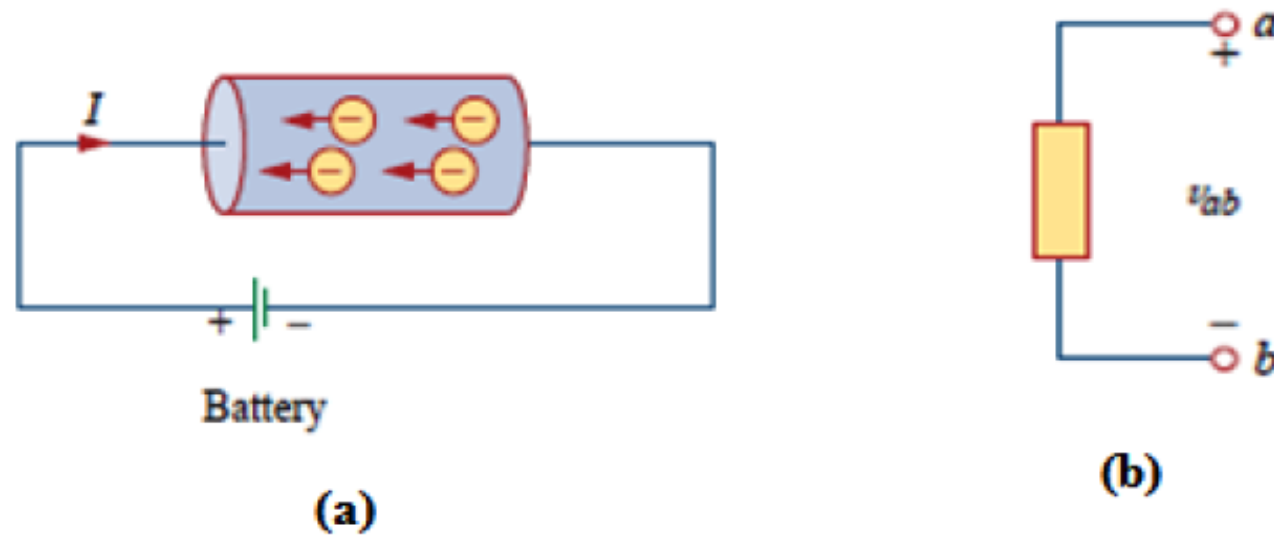

Fig. 1.3(a) Electric Current in a conductor, (b) Polarity of voltage v_{ab}
To move the electron in a conductor in a particular direction requires some work or energy transfer. This work is performed by an external electromotive force (emf), typically represented by the battery in Fig. 1.3. This emf is also known as voltage or potential difference. The voltage v_{ab} between two points a and b in an electric circuit is the energy (or work) needed to move a unit charge from a to b .
Fig. 1.3 shows the voltage across an element (represented by a rectangular block) connected to points a and b . The plus (+) and minus (-) signs are used to define reference direction or voltage polarity. The v_{ab} can be interpreted in two ways: (1) point a is at a potential of v_{ab} volts higher than point b , or (2) the potential at point a with respect to point b is v_{ab} . It follows logically that in general